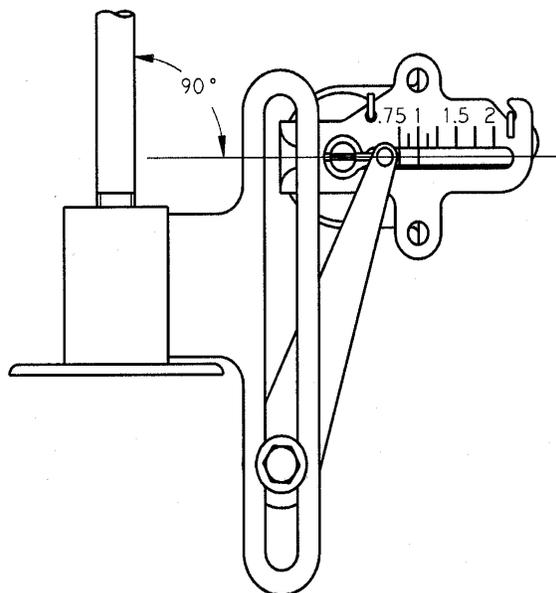

Figure 3-3. Crossover Point
4. Select the direction and size of change required to set the feedback arm so it is 90° to the actuator stem, as shown in figure 3-3. Once the feedback arm is in the right position, select Mark Current Position.